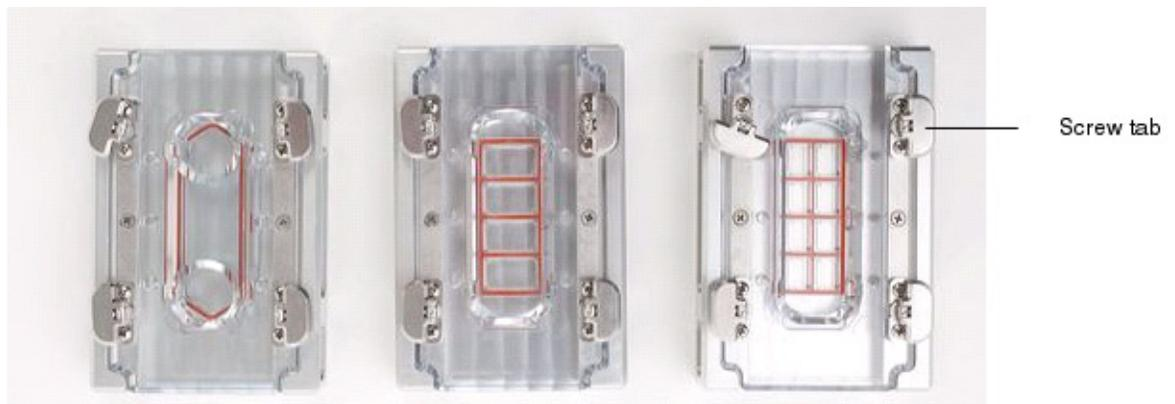

Figure 12 SOLiD™ Deposition Chambers: 1-well, 4-Well, and 8-well.
3. Place the SOLiD Slide Carrier assembly into SOLiD Deposition Chamber base, then place the appropriate SOLiD Deposition Chamber lid on top (see Figure 12).